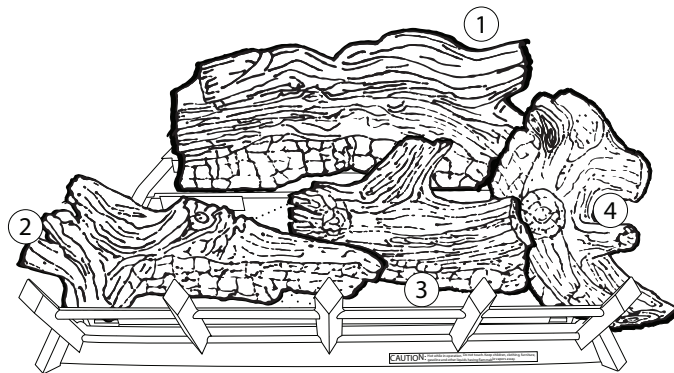

Figure 6.30 - Log #4 Placement
4. Place the right log (#4) on the bar located on the right side of the burner. See Figure 6.30.